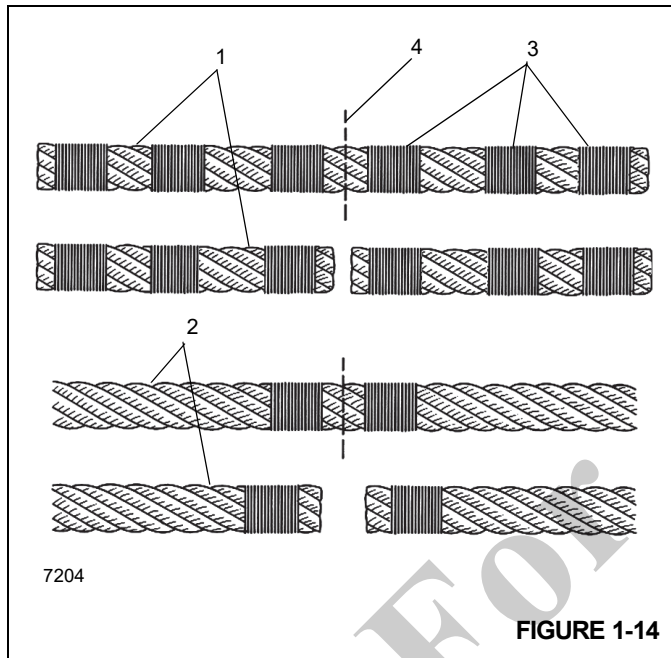

FIGURE 1-14
NOTE: Non-preformed wire rope (1) (Figure 1-14) should have three seizings (3) located on each side of the cut (4) as compared to preformed wire rope (2).